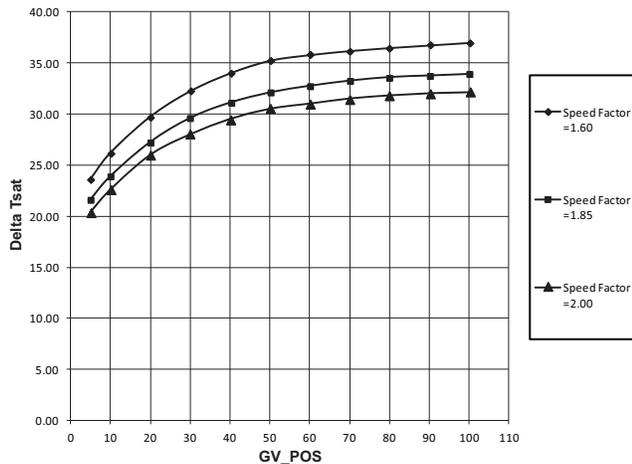

Fig. 40 — Effect of SURGE LINE SPEED FACTOR on Surge Prevention
- Surge Line Speed Factor determines how much the surge line moves to accommodate lower compressor speed. As compressor speed drops the ΔT values on the surge prevention line decrease. Increasing the Speed Factor causes Surge Prevention to activate sooner as the compressor speed drops. (See Fig. 40.)